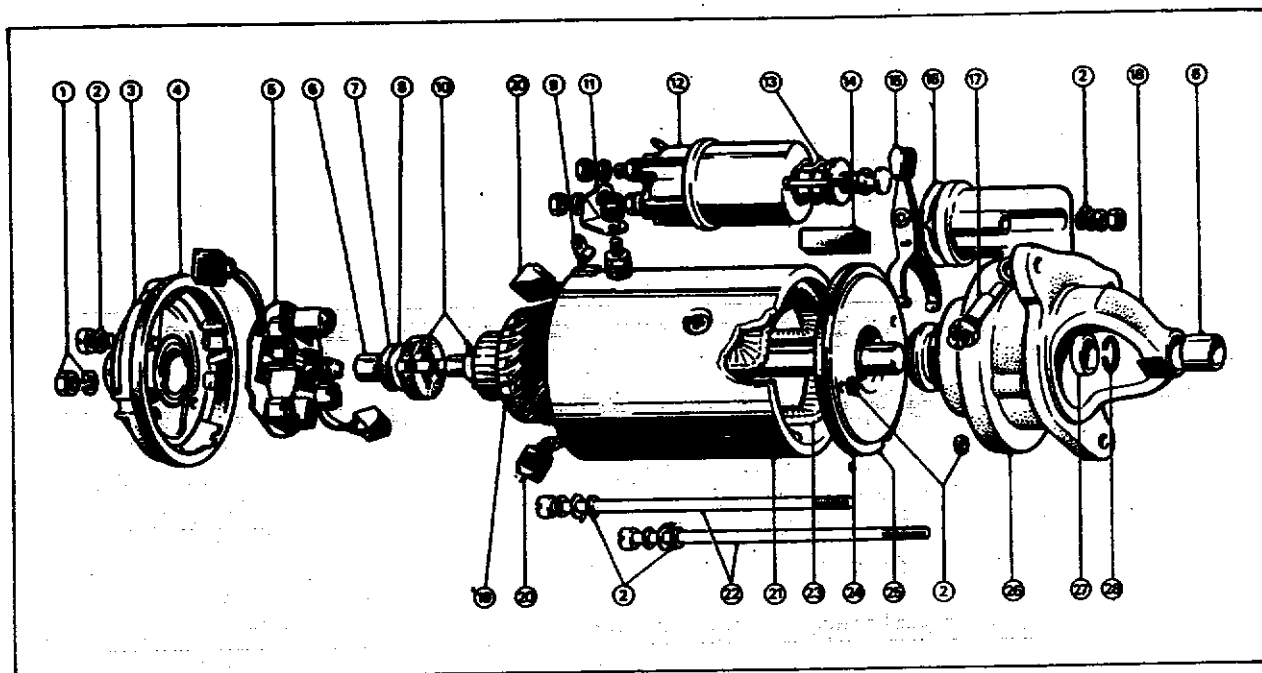

Fig. 53 – Starter, dismantled
The pre-engaged starter (Fig. 53) is a four pole four brush machine of 127 mm. (5 in.) diameter having a solenoid operated, roller clutch drive. The solenoid incorporates two sets of contacts which provide two-stage switching. When the starter is operated the pinion moves into full engagement with the engine flywheel ring-gear and the first and second stage contacts of the solenoid close simultaneously, connecting all four field coils of the starter to the battery, full cranking torque then develops. On occasions when the tooth-to-tooth abutment occurs, the solenoid plunger continues to move by compressing a drive engagement spring inside the plunger. This plunger movement causes the first stage contacts to close, connecting one of the field coils to the battery. The starter armature now turns at low speed and the pressure of the drive engagement spring, combined with push screw assistance from the drive helix causes the pinion to move into mesh.
4. At both ends of the through bolts, at the earthing stud, solenoid fixing studs and brush gear plate securing screws in the outer face of the commutator end cover see Fig. 53.